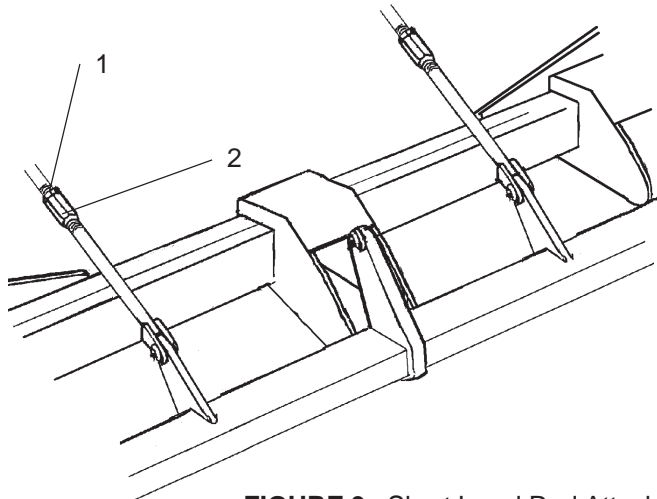

**FIGURE 2.** Tongue Assembly/
To assemble the tongue (**FIGURE 2**). Align the lugs of the tongue with the top holes of the mainframe hitch plate (1). Insert the pivot pin (2) and fasten with 2 - 3/8" x 1 1/4" bolt (3) and 3/8" locknut (4). To assemble the control rod insert a jam nut to the short rod (5), then insert the short rod (5) into the long rod (6). Align the hole of the short control rod (5) to the top hole of the center lug on the mainframe (7). Insert pin and lock with cotter pins. Align the hole of the long rod (6) to the clevis hitch (8) and insert pin with cotter pin (9). Attach the Safety Chain (14) by looping it through the hole on the tongue and the largest link on the chain. Make certain to securely attach the hook end to the tractor when transporting.
Lay Long Level Rods (10) on Center Section frame tube and attach to Tongue with Level Rod Pins (11), washers (12), and cotter pins (13) shown in **FIGURE 2** above. Attach Jam Nuts (5) and Adjusting Nuts (6) to the Long Level Rods. Install Short Level Rods to Adjusting Nuts. Measure and adjust to the same length. Then attach the Short Level Rods to the Rear Axle with Level Rod Pins, washers, and cotter pins. **FIGURE 3** below.